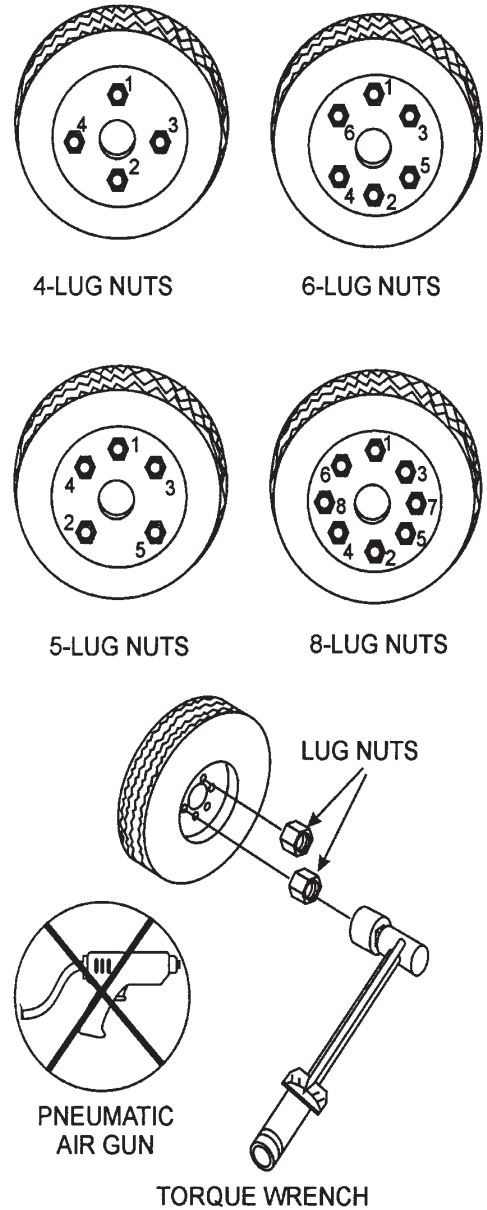

Figure 68. Wheel Lug Nuts Tightening Sequence
12. **Lug Nuts** — Used to secure the wheel to the wheel hub. Always use a torque wrench to tighten down the lug nuts. See Table 15 and Figure 68 for lug nut tightening and sequence.
2. Torque all lug nuts in sequence (see Figure 68). **DO NOT** torque the wheel lug nuts all the way down. Tighten each lug nut in 3 separate passes as defined by Table 15.